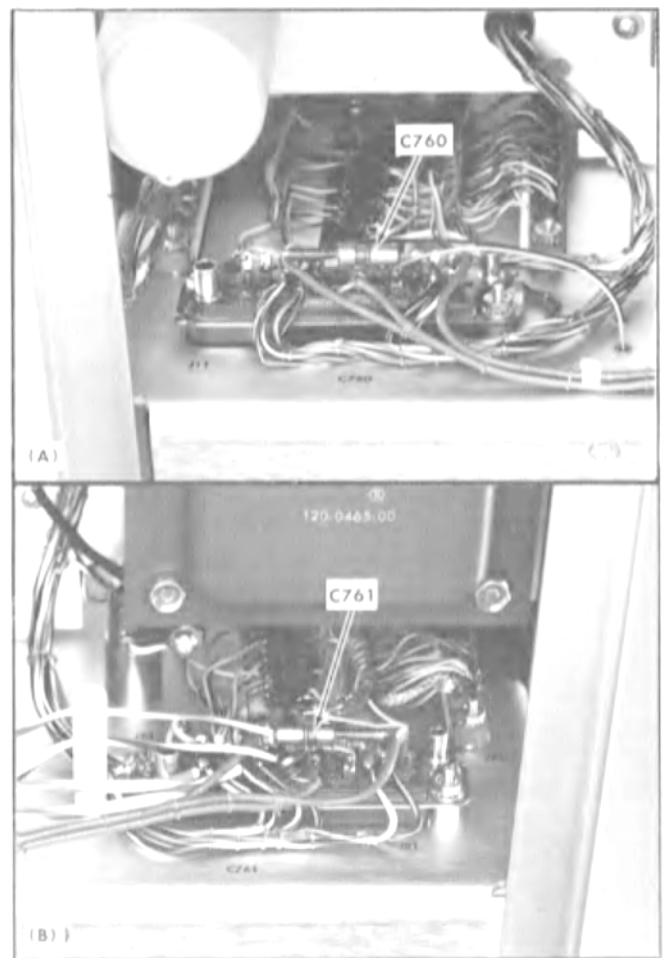

Fig. 6-15. Location of vertical and horizontal compensation adjustments, C760 and C761.
- c. Adjust—R855 High Voltage adjustment, (see Fig. 6-15) for -3300 volts.
e. Adjust—C760 (see Fig. 6-15).